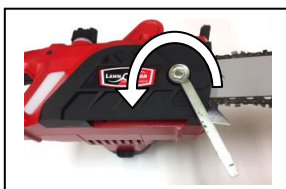

Fig.3
4. Loosen the chain cover nut (Fig.3) by turning it anti-clockwise and remove the chain cover.
CONNECTING THE CHAINSAW TO POWER (Fig.3)